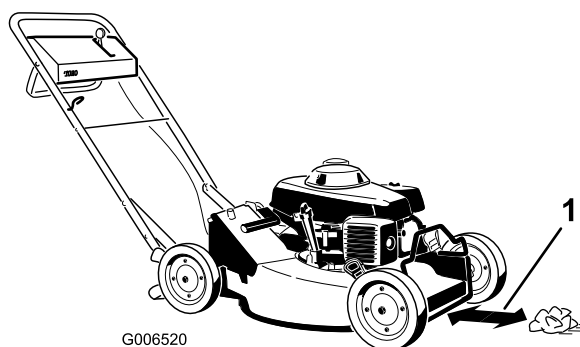

Figure 16
6. Place the ball of newspaper 5 inches (12.7 cm) in front of the mower (Figure 16).
- A. Place the ball of newspaper 5 inches (12.7 cm) in front of the mower (Figure 16).